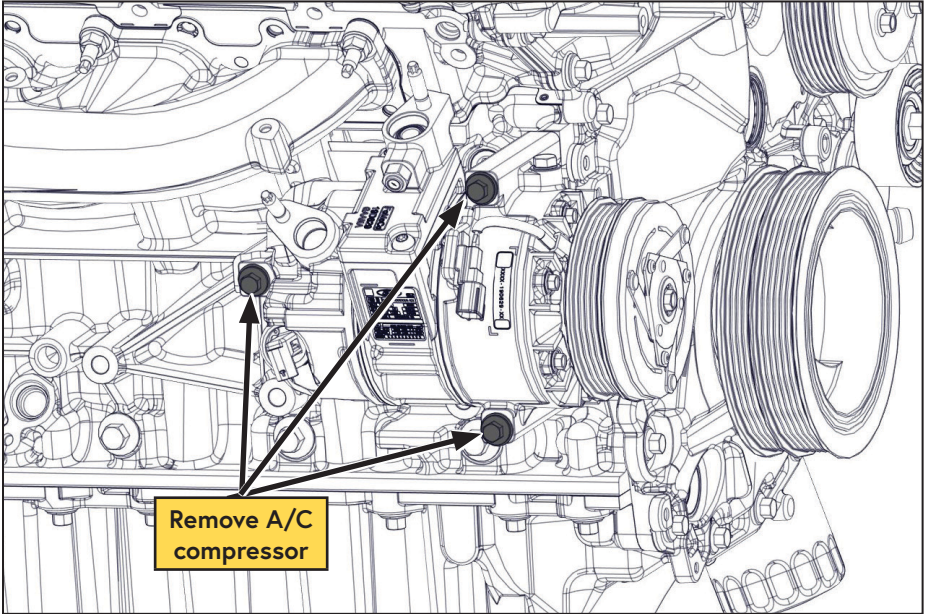

Figure 17 — Remove A/C compressor
- Leaving the A/C lines connected, remove the A/C compressor and secure it up and out of the way (Figure 17).